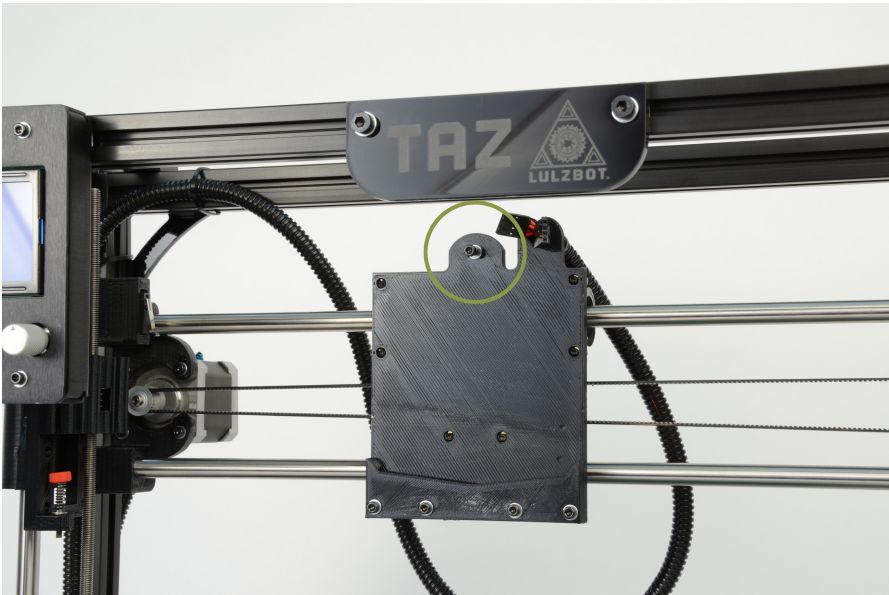
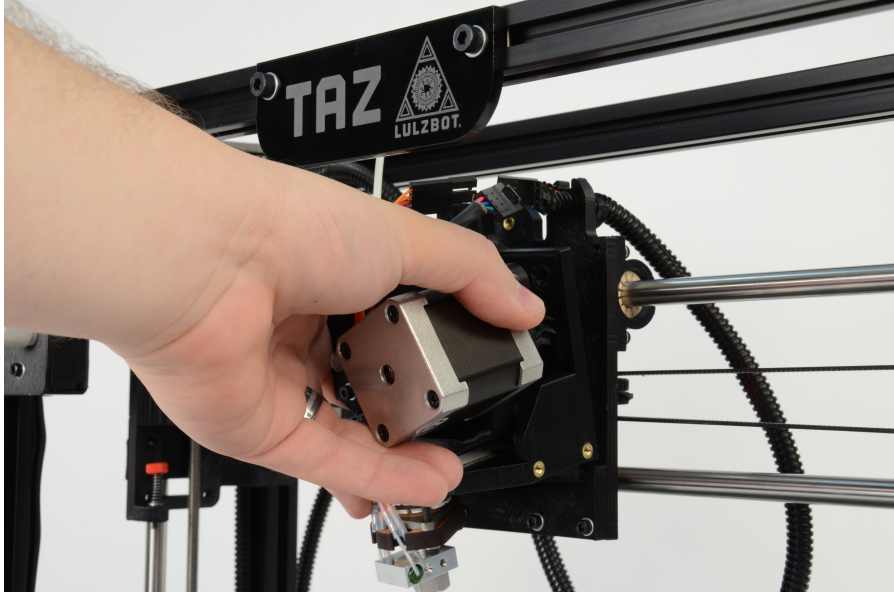

Figure 1.11: Remove the tool head screw
Figure 1.12: Mount the extruder tool head
9. Move the X axis carriage to the center of the smooth rods. If you have not already done so, remove the foam from between the X axis carriage and the left hand X axis end. Locate and remove, with the 2.5mm hex driver, the tool head 3mm screw in top center of the X axis carriage (Fig. 1.11, page 24). Place the extruder tool head mount onto the X axis carriage bottom first. The extruder mount will slide into the bottom portion of the carriage and self center (Fig. 1.12, page 25). Use the included 2.5mm driver and the previously removed 3mm screw to secure the extruder tool head onto the X axis carriage.